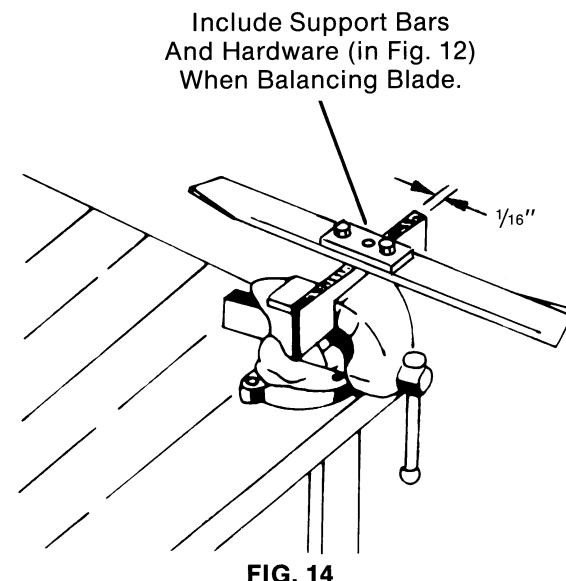

FIG. 14
- C. After sharpening, check blade for balance by supporting blade as shown in (Fig. 14) using center hole as a guide. File or grind metal from heavy end of blade until blade balances.